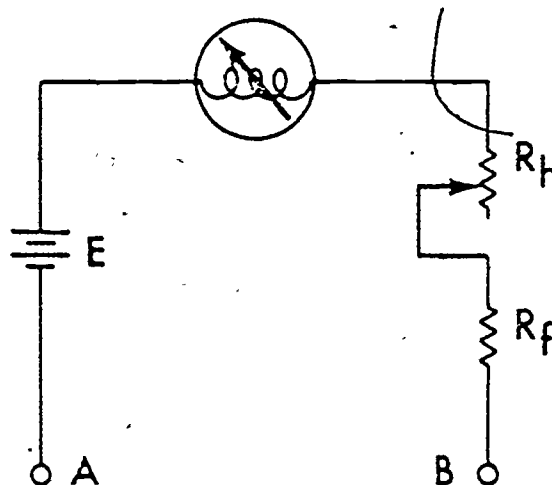

Figure 1-16. Ohmmeter circuit.
The basic meter movements that are used in voltmeters and ammeters are also used in ohmmeters. A basic circuit of an ohmmeter is shown in figure 1-16. It consists of the following:
- (1) A source of dc power, usually a small dry cell.
- (2) The basic meter movement.
- (3) A variable resistance R_h (rheostat) to zero the meter.
- (4) A fixed resistance R_f to limit the current flow through the meter coil.
Voltmeters and ammeters are used in live circuits, but you should never connect an ohmmeter to a live circuit. To do so will surely ruin the meter movement. As shown in figure 1-16, with terminals A and B connected together, there is no resistance between them. The current through the circuit causes a full-scale deflection of the pointer. Since there is zero resistance between A and B at full-scale deflection, this point on the scale is marked by the number zero. In the event the pointer does not read zero resistance when A and B are shorted together, the most probable cause is a low battery (E). By adjusting the rheostat (R_h), you can bring the pointer to